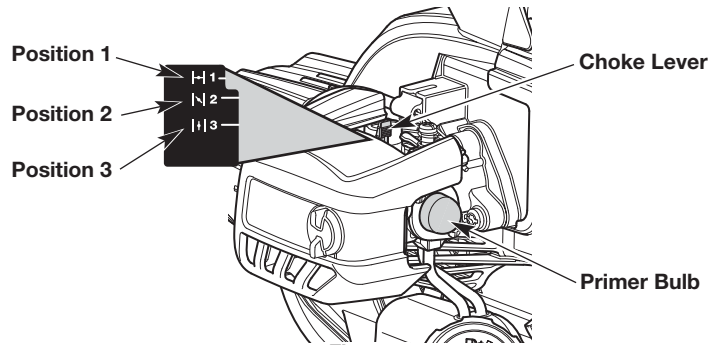

Fig. 11
3. Slowly press and release the primer bulb **10 times** (Fig. 11). If fuel cannot be seen in the primer bulb, press and release the primer bulb until fuel is visible.
4. Move the choke lever to **Position 1** (Fig. 11).
7. Continue to press the throttle lock-out and squeeze the throttle control. Move the choke lever to **Position 2** (Fig. 11).
10. Continue to press the throttle lock-out and squeeze the throttle control. Move the choke lever to **Position 3** (Fig. 11) and continue warming the engine for an additional 60 seconds. The unit may be used during this time.
**IF...** the engine hesitates, return the choke lever to **Position 2** (Fig. 11) and continue the warm-up.